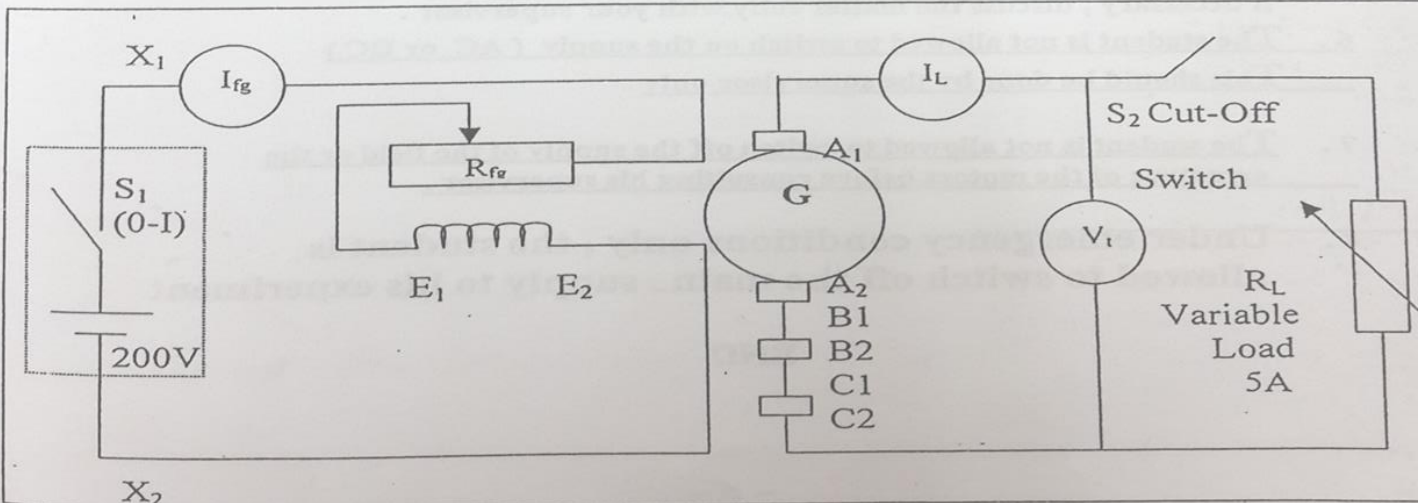

Figure 3
1. Connect the circuit shown in Figure 3.